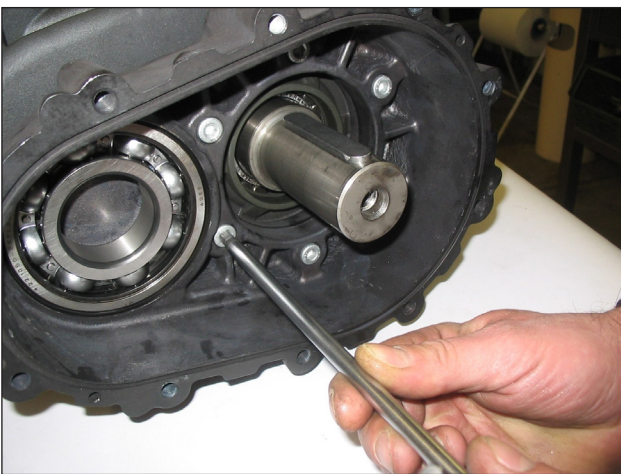

Fig. 21
- Unscrew the bolts fastening the reduction gearbox, then remove it (Fig. 21).